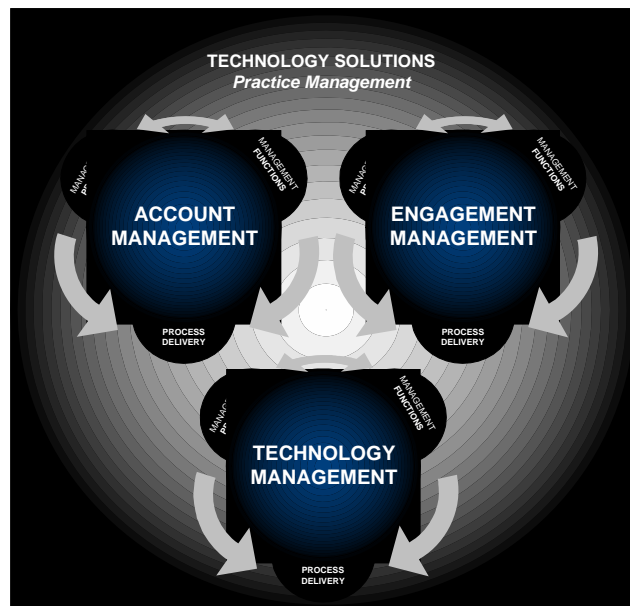

Figure 1: Solutions Practice Management Process Framework
The EPIC Method structures engagement management into three (3) distinct process areas (*Figure 1*). The seamless integration of these process areas comprises the EPIC Method's *Solutions Development Life-Cycle*.